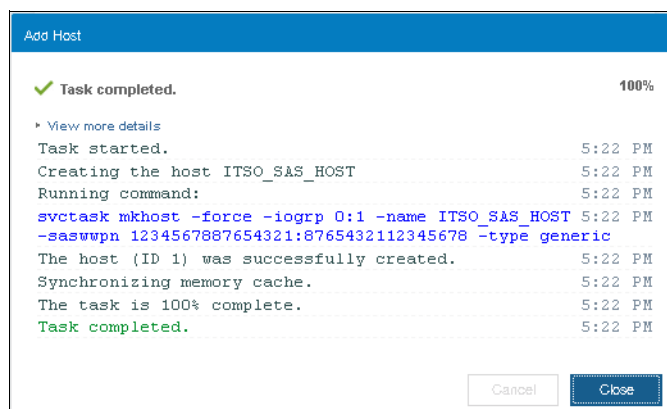

Figure 5-71 Completion of the Add Host wizard
- Click **Add Host** and the wizard completes, as shown in Figure 5-71.